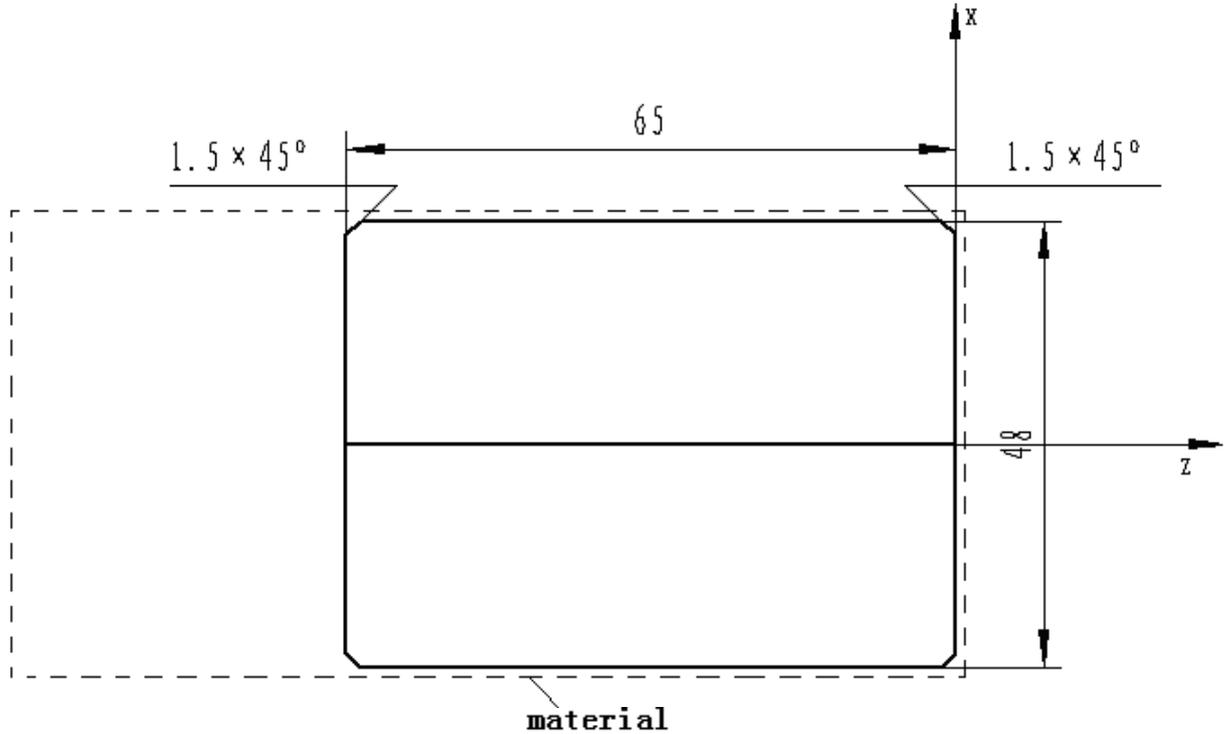

Fig. 10-1
1) Machining the workpiece is shown in Fig. 10-1 and the rod is $\Phi 50 \times 100$ mm
According to the mechanical processing and introduction of the commands in the manual, set the work piece coordinate system shown as Fig 10-1; edit the programs shown as below: